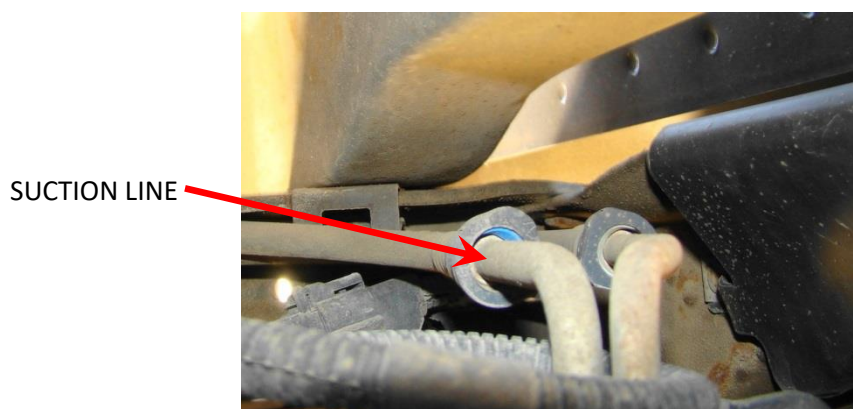

FIGURE 24
- 6C-2. Remove the original fuel suction line quick connect fitting (figure 24) from the top of the tank by squeezing the tabs on the end of the connector together while pulling. **DO NOT** mistake the return line with the suction line. Consult your factory manual if unsure of these procedures.